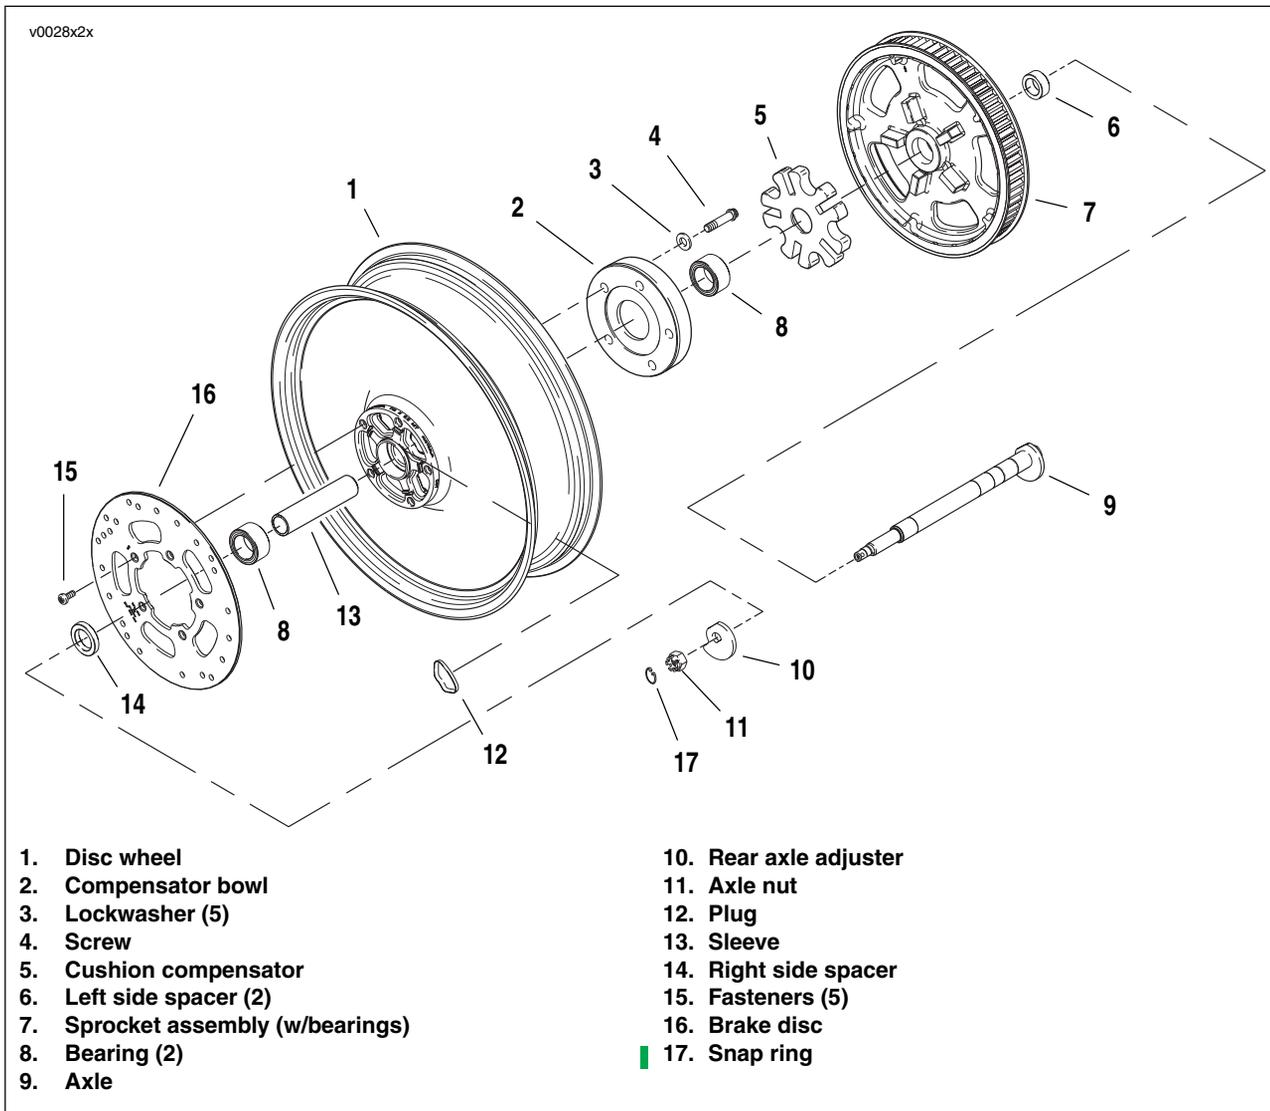

Figure 2-70. Rear Wheel Components
4. See Figure 2-70. If necessary, remove screws (4) and helical spring lockwashers (3) holding compensator bowl (2) to disc wheel (1). Remove compensator bowl (2).
5. If necessary, remove fasteners (15) that hold brake disc (16) to disc wheel (1) and remove brake disc (16).